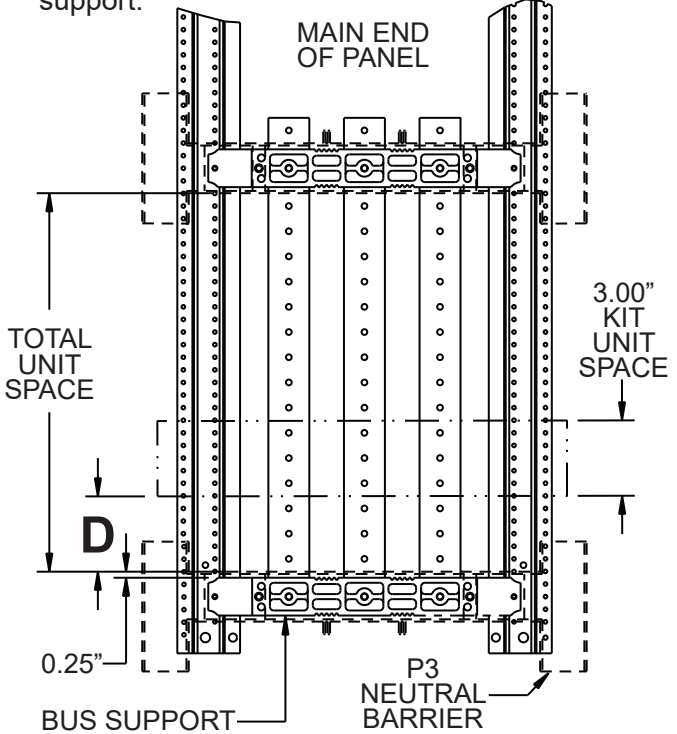

Fig. 1
3. Refer to Fig. 1
4. This kit requires 3" of unit space. Determine the location where the kit is to be installed. The kit positioning dimension **D** in Fig. 1 must be a multiple of 3" (e.g.: 0", 3", 6", 9", etc.). These measurements can be taken directly from a P3 neutral barrier. For measurements taken from a P2 or P3 bus support, add 0.25" to **D** (e.g.: 0.25", 3.25", 6.25", 9.25", etc.).